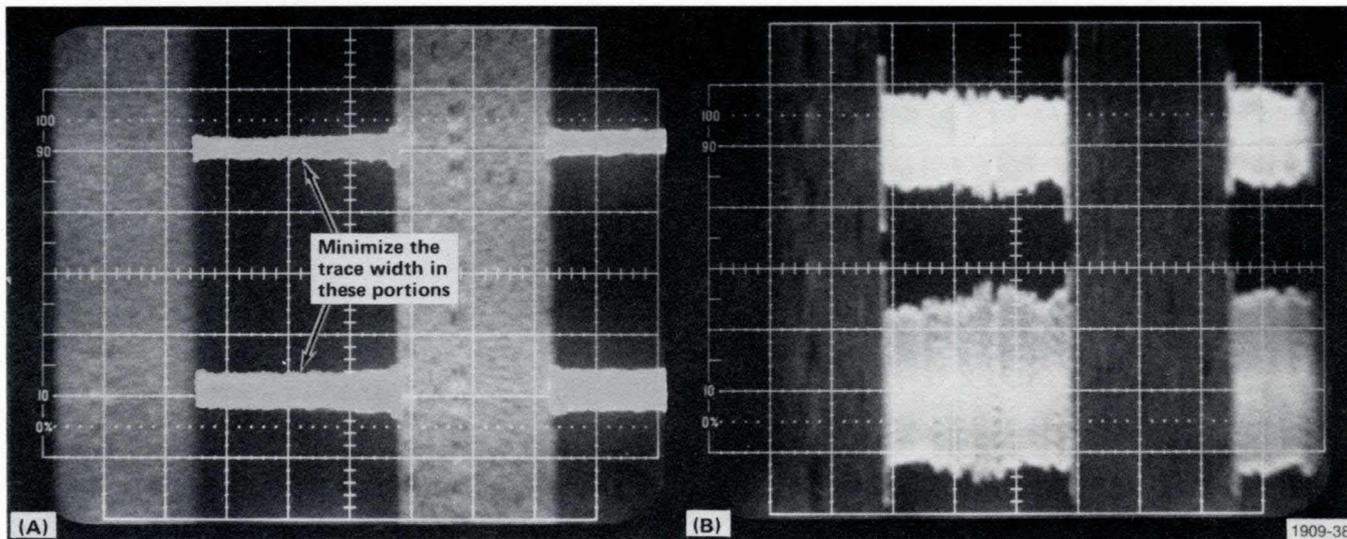

Fig. 3-20. Correct Height Adjustment Waveforms.
7. Change the oscilloscope time base to 20 ms per division, and place the probes back in their original positions (U5 and U215, pin 6 of each). The narrow portions of the oscilloscope display (Fig. 3-20) represent the edges of erased portions of the tape.